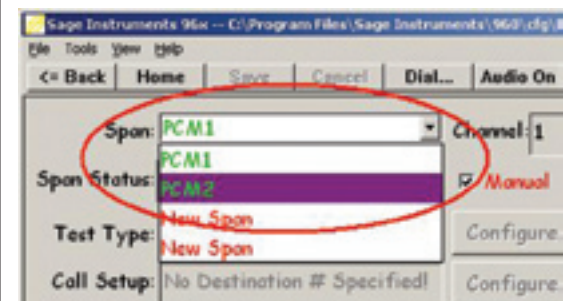

Figure 38
5. Without leaving the main test window use the “Span” pull down menu in the upper left hand corner to switch span selection to PCM 2 (see close-up figure 38).